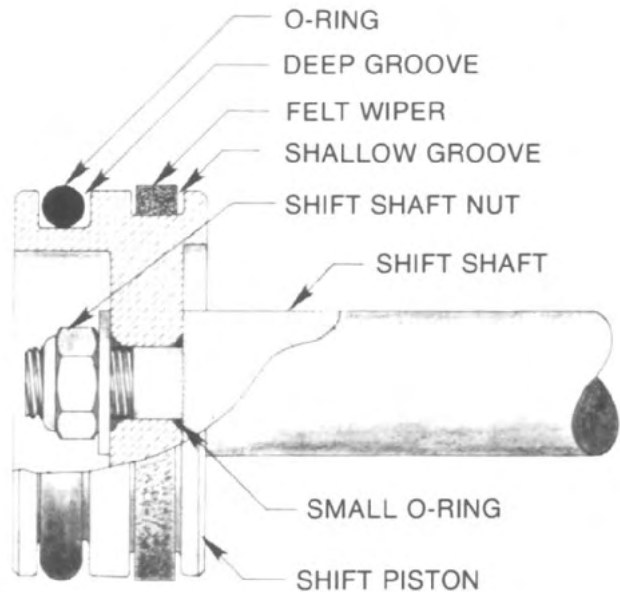

Fig. 29
8. Place piston over threads of shift shaft (depressing spring) with shallower of two grooves facing towards shaft (Fig. 29).
10. Place an oil soaked felt wiper in shallow groove on piston and an O-ring into deep groove (see fig. 29).